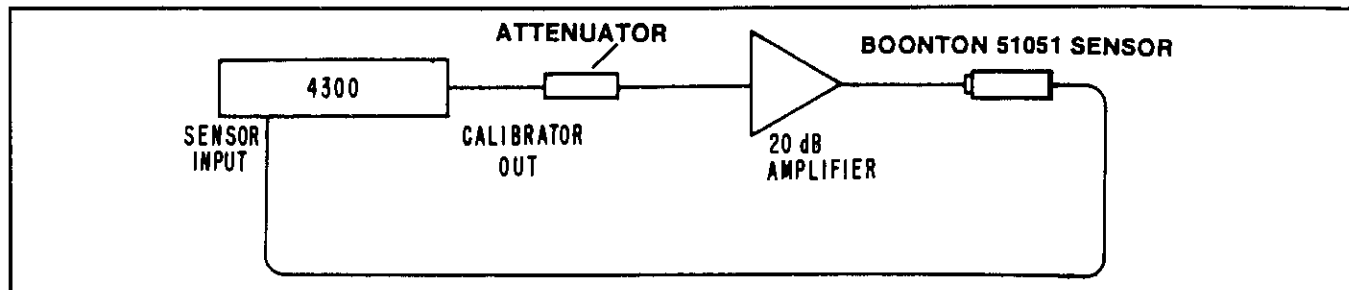

Figure 6-207. Measurement at -60 dBm
9. **-60 dBm ADJUSTMENT (Early software only).** Connect the equipment as shown in Figure 6-207, using the 60 dB attenuator or stacked attenuators equal to 60 dB nominal. Cables should not be used between the calibrator and the sensors. The absolute amplifier gain is not important, since it is used for comparison of two measurements only, but it must be repeatable. Press LEVEL, 0, ENTER. Take a reading and call it A. Now set the level to -60 dBm (LEVEL, 60, -, ENTER) and remove the attenuator from the path. Press SPECIAL, 6, ENTER to get into the calibration routine. Press + to begin measurement, and adjust the level using the 6 keys previously mentioned so that the reading is equal to A + ATTEN + (-60). For example,